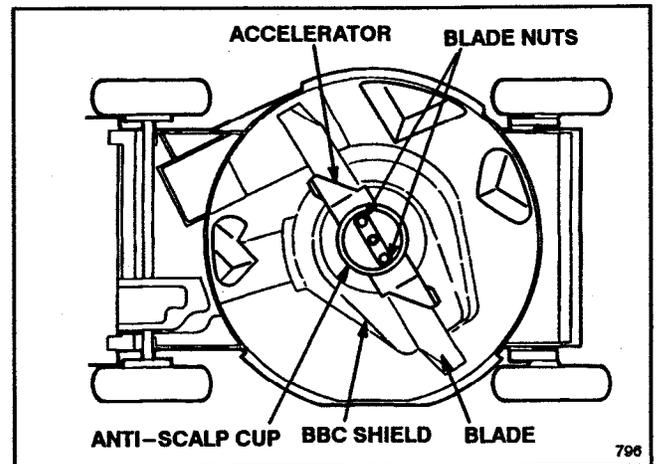

Figure 32
3. Tip mower on its left side (Fig. 32).
4. Remove (2) blade nuts, anti-scalp cup, accelerator, blade, blade spacer, and (3) bolts and washers securing BBC shield to mower deck (Fig. 32).